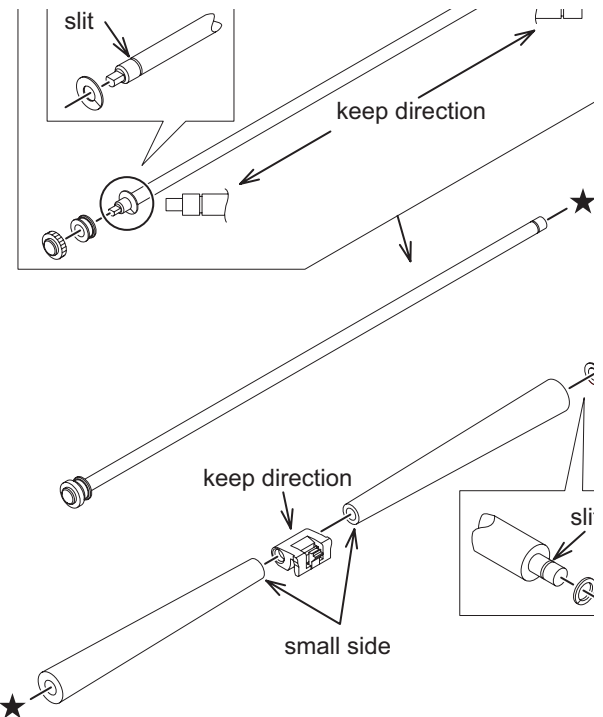

Fig.20
3.2.11 Removing the Roller (See Fig.20)